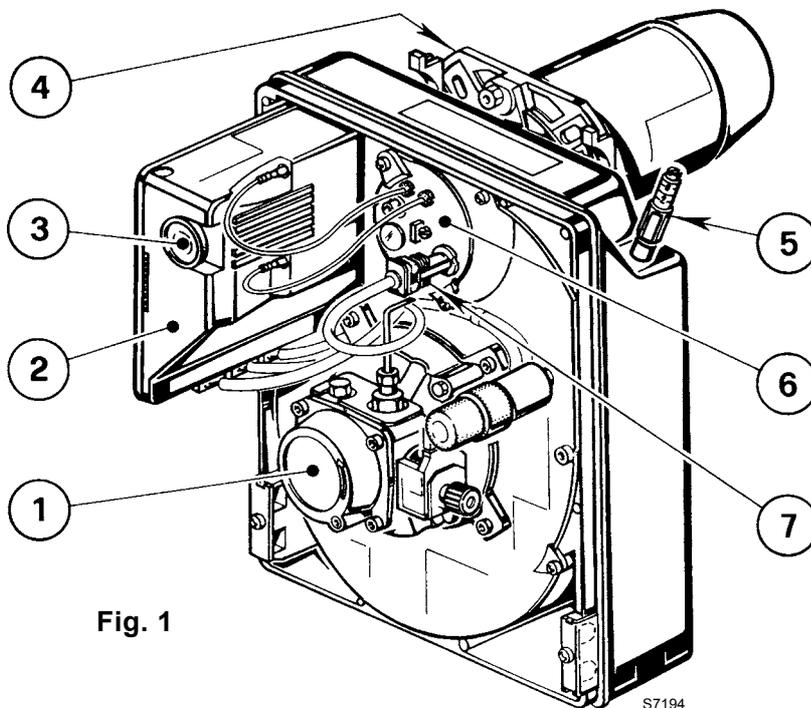

Fig. 1
C Lock out is indicated by a lamp on the control box (3, fig. 1, page 1).
- Clean the photoresistance, (7, fig. 1, page 1).
A fault usually makes the lock-out lamp light which is situated inside the reset button of the control box (3, fig. 1, page 1).